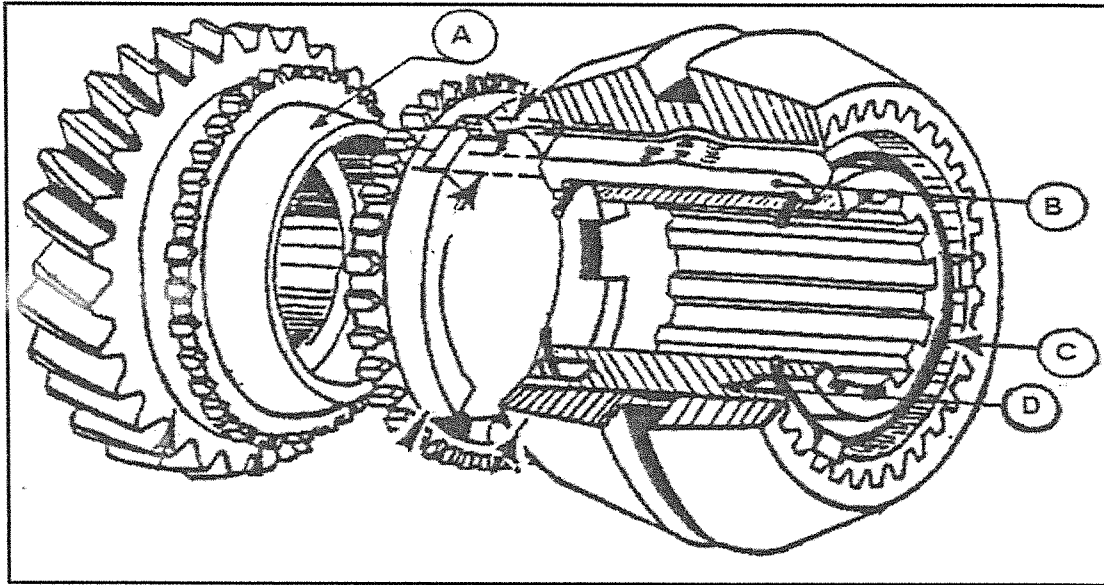

FIGURE 1
1.1 FIGURE 1 shows a synchronising unit that is used in a four speed gearbox.